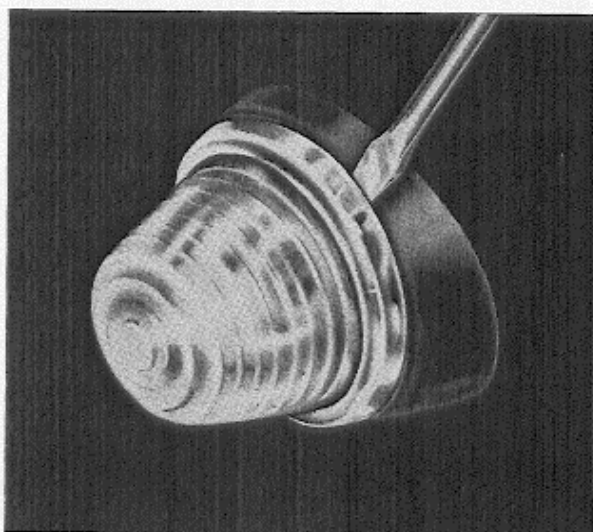

Fig. 75. Removing the rim.
1. Remove the rim with a screwdriver, see Fig. 75.